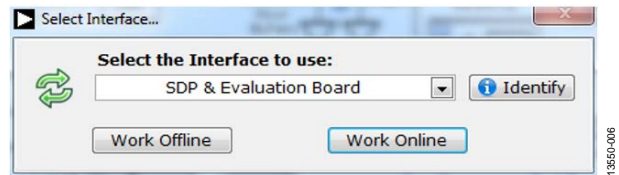

Figure 7. Select Interface Dialog Box
1. From the **Start** menu, click **Programs, Analog Devices,** and then **AD777x**. The main window of the software then displays (see Figure 7).